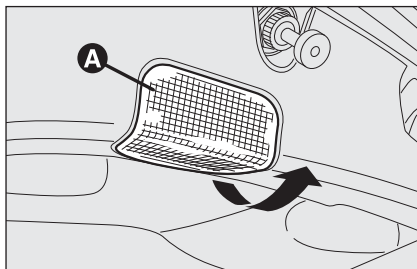

fig. 44
- remove the light unit **A-fig. 44** working in the point shown by the arrow;